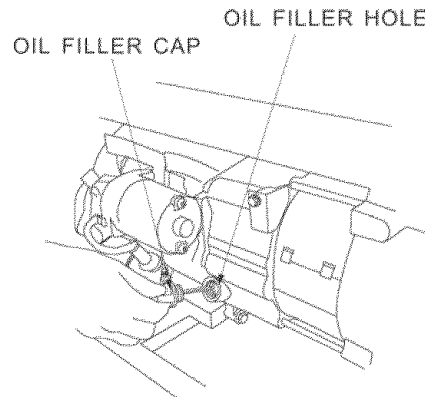

Figure 14- Checking the oil
2. Unscrew the oil filler/dipstick cap (see figure 14).